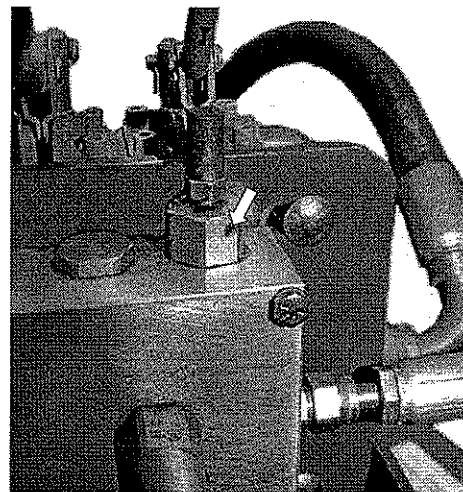

figure 12
6. Manual Valves Only – Adjust the shut-off valve set screw (figure 12).